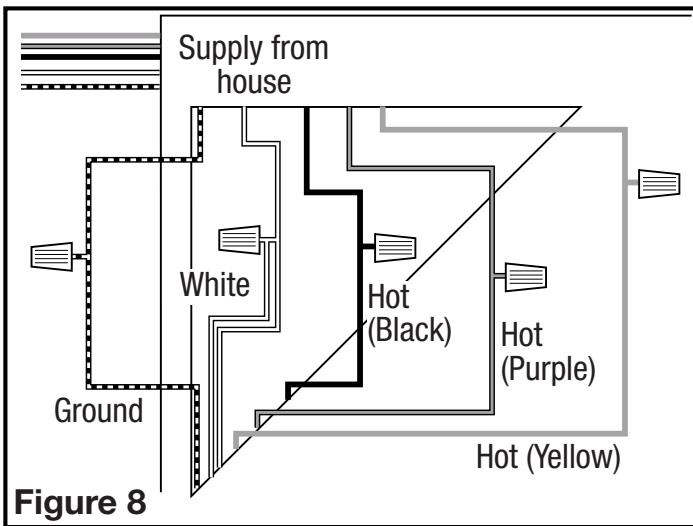

Figure 8
- From where you have chosen to access the fan's junction box, connect the White wire from the house to the two White wires from the fan. Connect one Hot (Black) wire from the wall switch to the Black wire from the fan (this is the fan control). Connect second Hot (Purple) wire from the wall switch to the Purple wire from the fan (this is the night light control). Connect the third Hot (Yellow) wire from the wall switch to the Yellow wire from the fan (this is the main light control). Connect the ground wire (green or bare copper) from the house to the Green wire from the fan (Figure 8). Use approved methods for all connections.